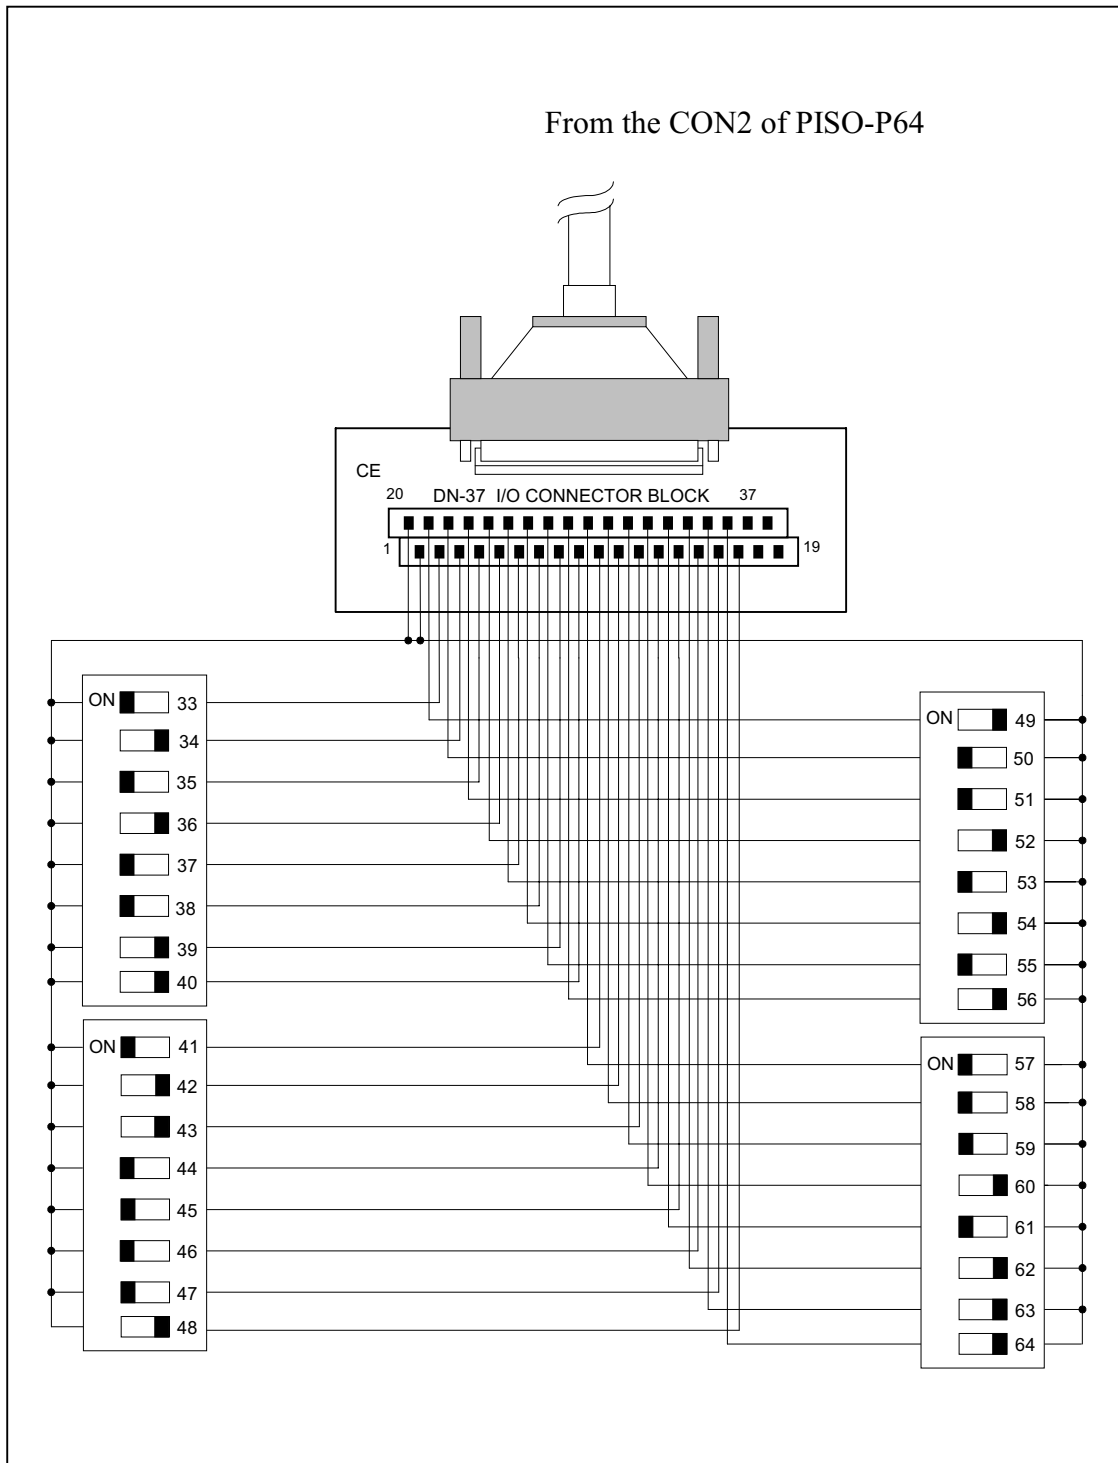

Figure 4-2-3. The circuit diagram of external device 2 for the digital inputs of PISO-P64
- The circuit diagram of external device 2: Refer to Figure 4-2-3